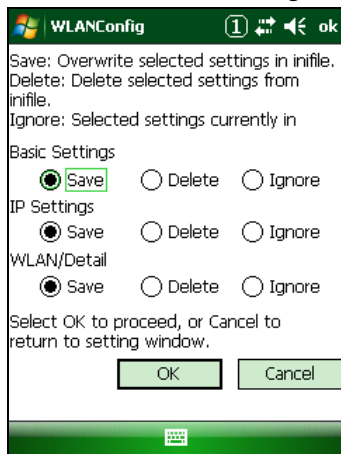

Figure 5.7
5. If **OK** button is clicked, the screen in Figure 5.7 appears. Tap **OK** button to perform a reset on the terminal so that the setting takes effect.